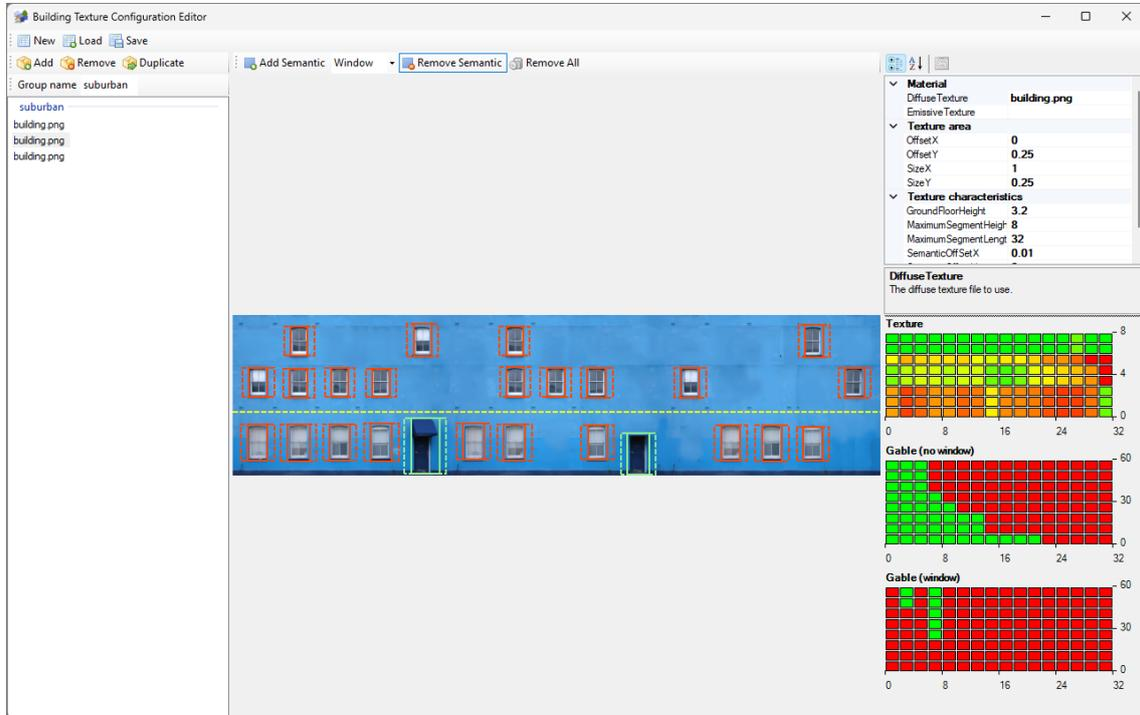
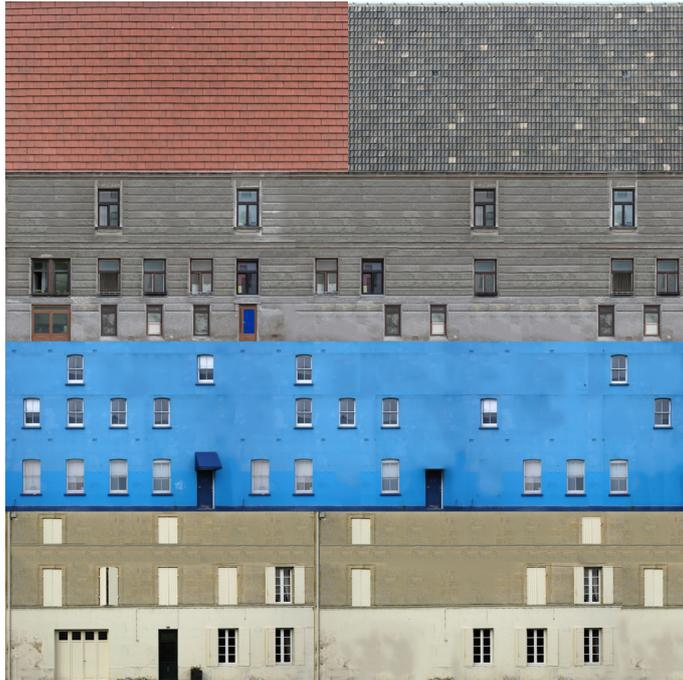

Figure 7.10: Building Texture Configuration Editor
Figure 7.11: Example building texture
All of the topics mentioned above are configured in the Building Texture Configuration file and you can use the Building Texture Configuration Editor, see Figure 7.10, to make and edit this configuration file. The texture shown in Figure 7.11 is used as an example in this section to explain how that is done. You can see that this building texture configuration file contains 3 different wall segments.
- **Offset X** and **Offset Y** specify the offset of this texture segment in the texture sheet as a percentage of the size of the texture sheet. This way you can use different segments from the same texture sheet on your building. Table 7.1 shows the offset values for the sample texture sheet shown in Figure 7.11.
- **Size X** and **Size Y** specify the size of this texture segment as a percentage of the size of the texture sheet. This way you can use different segments from the same texture sheet on your building. Table 7.1 shows the size values for the sample texture sheet shown in Figure 7.11.